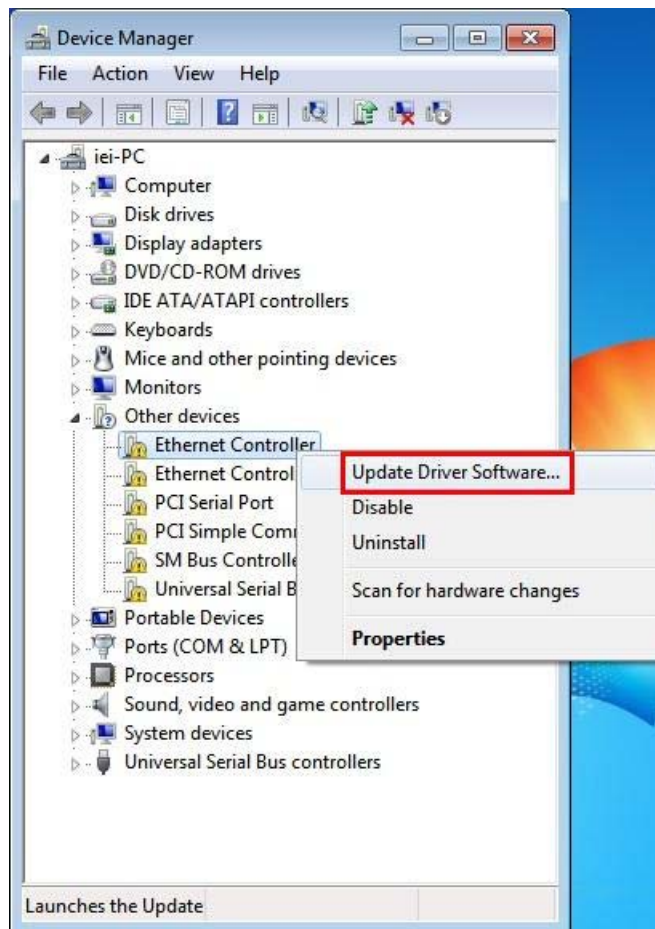

Figure 6-14: Device Manager List
Step 4: A list of system hardware devices appears (**Figure 6-14**).